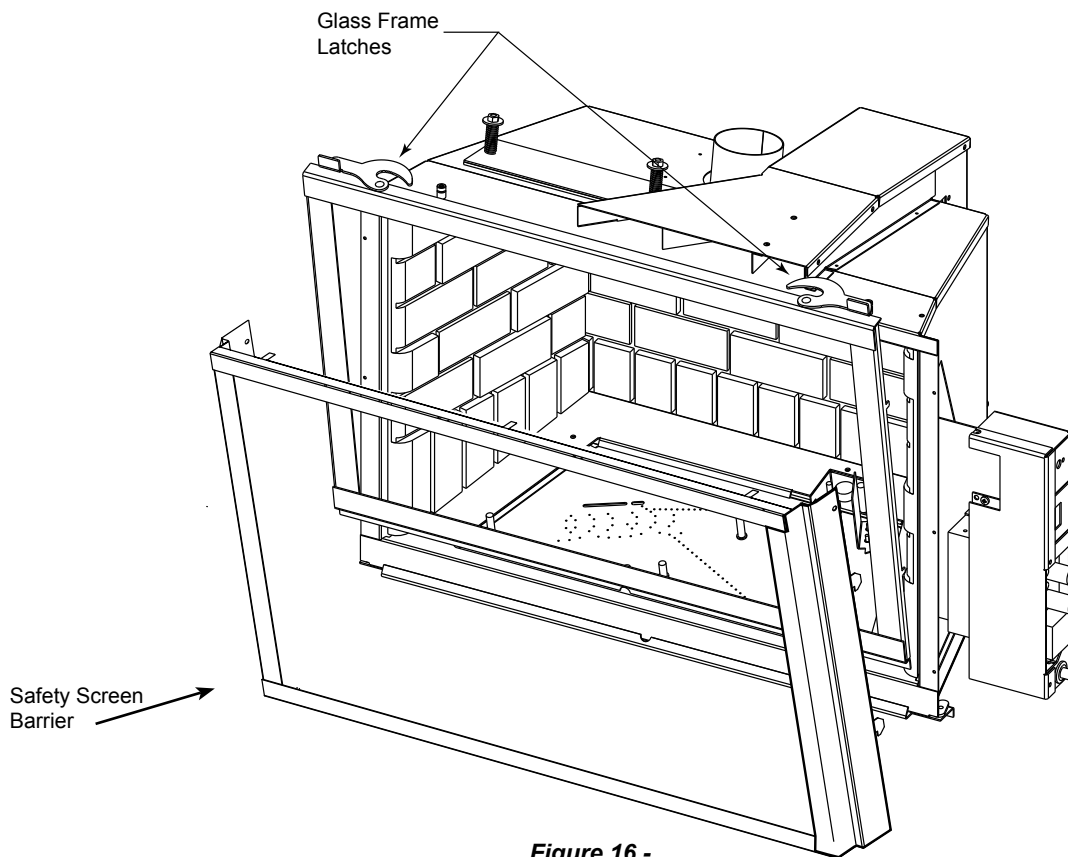

Figure 16 - Glass Frame Removal
2. Remove glass frame from insert by releasing two latches on top of insert and lifting the door up and off the unit. *Figure 16*
1. Remove glass door assembly. *Page 18, Figure 16*